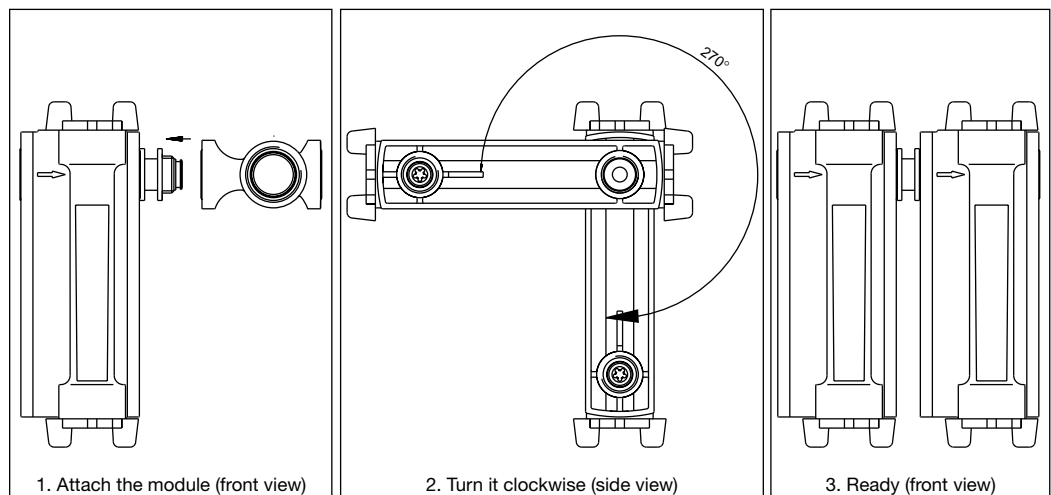

Fig. 4
- ▶ Release the module that is to be replaced from the module block (figure 4 in reverse)
- ▶ Place the new module on the module block as shown in figure 4.